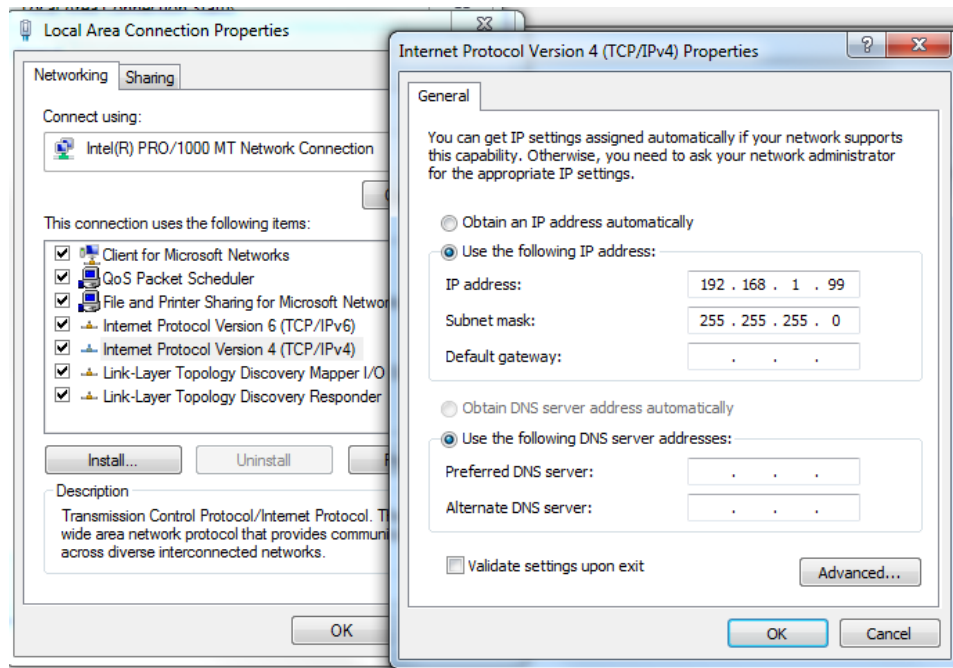

Figure 40: Network IP address
- (d) Double click *(TCP/IPv4)*. Here is where you are able to change the network's IP address (Figure 40). Change it to be within the same range as the drive and controller. Example: